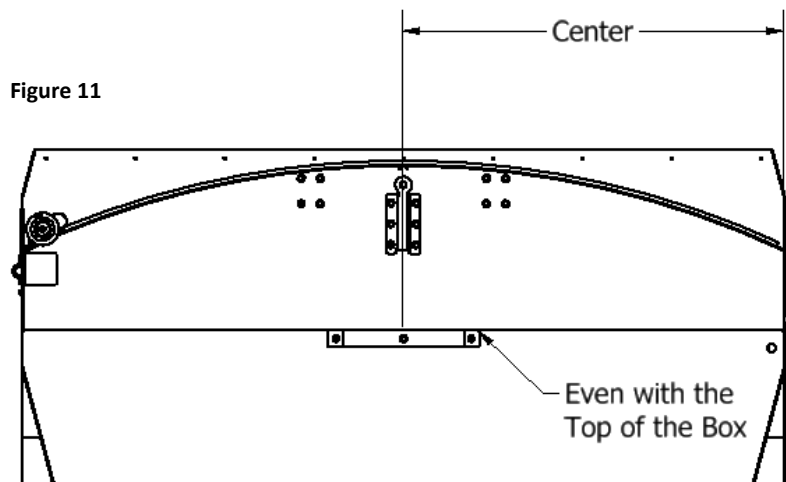

Figure 11
Cut the roll-tube back so it is 1-1/4" from the mounting point of the motor arm. See figure 11. Mount the motor (Q) to the motor bracket (P) with (3) 5/16"x3/4" hex bolts and lock washers as shown. Slide the front bevel pulley (O) on the roll-tube, then the motor (Q) into the end of the roll-tube. Cut the pattern out and tape it to the end of the roll-tube. (See Figure 9A) The end of the pattern needs to start and finish at the seam in the roll-tube. Center punch the 3-hole centers for the attaching bolts. Remove the paper pattern and use an 11/32" drill bit to drill the holes. Bolt the roll tube drive coupler to the roll tube using 5/16"x1/2" bolts, 1/4" washers and 5/16" lock washers (See Figure 11) Torque bolts to 19ft.lbs. and check tightness periodically. Install the Motor Drive onto the motor shaft and insert the 5/16"x1_3/8" HEAVY DUTY roll pin to secure them together (See Figure 11). The roll pin must be installed so it does not protrude from the Motor Drive. Drill a 3/8" hole at the pivot point (T) and slide the bottom round pivot arm (R) into the tubing on the motor bracket (P). Bolt the bottom pivot arm to the trailer with a 3/8"x2" hex bolt, washers and nylon lock nut. You may need to shorten the bottom